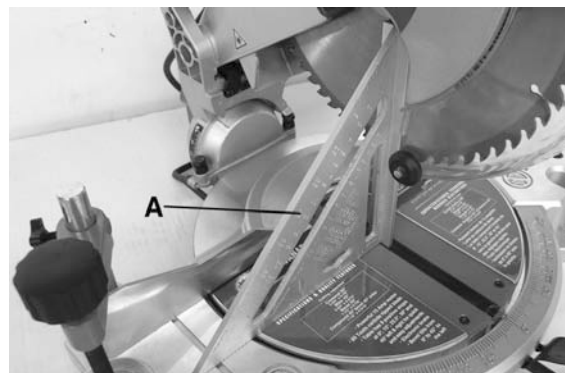

FIGURE 12
2. Adjust the cutting arm so that the blade is at 90 degrees to the table, as shown in Fig.12, and tighten the bevel lock handle.
3. Using a square (A) Fig. 12, place one end of the square on the table and the other end against the blade. Check to see if the blade is at 90 degrees to the table.